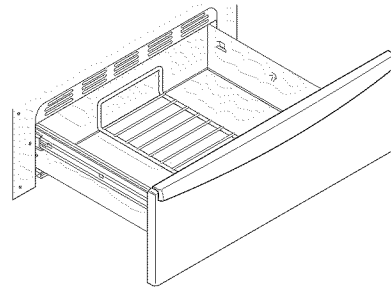

Figure 28: Downward position
- In the downward position (See Figure 28) to allow for light weight food items and empty cookware (for example, rolls, pastries, and dinner plates) on the rack.